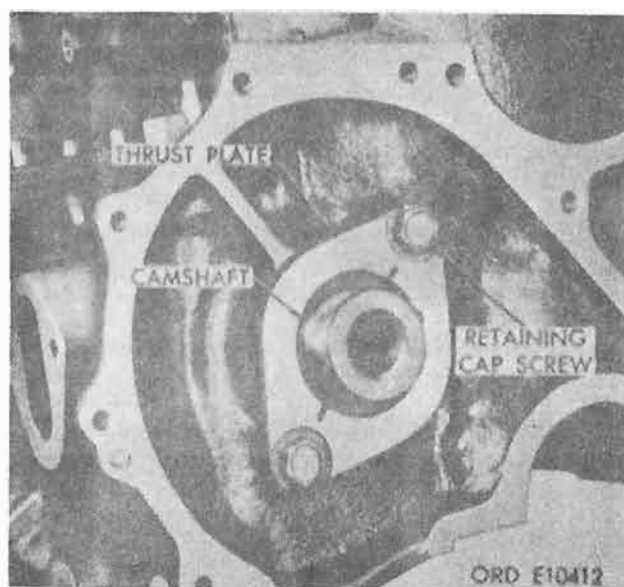

Figure 4-118. Camshaft thrust plate.
b. **Camshaft Thrust Plate.** Remove two hex-head capscrews and washer assemblies securing camshaft thrust plate to cylinder block (fig. 4-118).